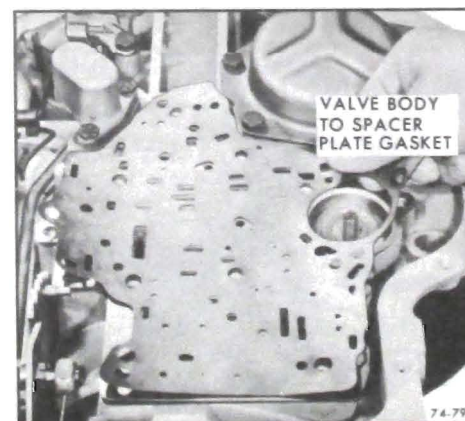

Figure 76-517
5. Remove valve body to spacer plate gasket. See Figure 76-517.